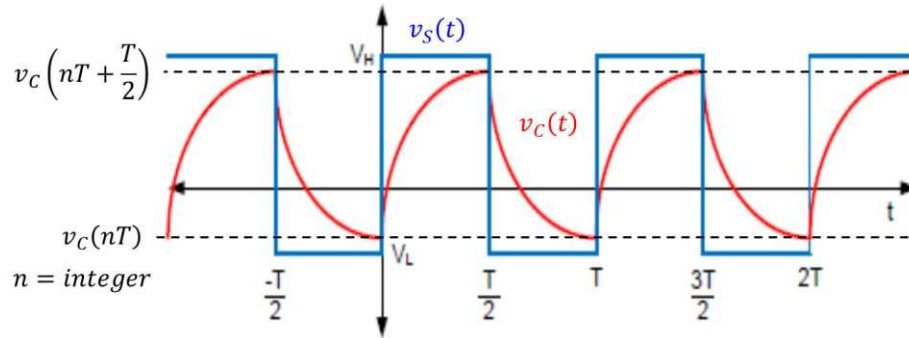

Figure 2 - RC circuit response to a square wave.
The RC circuit responds to the applied square wave voltage by charging and discharging the capacitor. This is shown in Fig. 2 with the source voltage  $v_s(t)$  shown in blue and the corresponding steady-state capacitor voltage  $v_C(t)$  shown in red. "Steady-state" is defined as the conditions reached after the natural response of the circuit has died out such that the response of the circuit to the square wave is a sustained oscillation.
Note that in Fig. 2 the capacitor is never able to either fully charge or discharge. This drawing is based on the assumption that  $T_c > T$  (the time constant of the RC circuit is greater than the period of the square waveform). If  $T_c \ll T$ , the capacitor would fully charge and discharge during each period of the waveform. Conversely, if  $T_c \gg T$ , the capacitor voltage would remain nearly constant.
The equations describing  $V_C(nT + \frac{T}{2})$  and  $V_C(nT)$  from Fig. 2, in terms of  $V_L$ ,  $V_H$ ,  $T$ ,  $R$ , and  $C$  are
3. Connect the waveform generator and the circuit to the oscilloscope. Simultaneously display 4 periods of the input square wave  $v_S(t)$  and the output voltage across the capacitor  $v_C(t)$  similar to the graph of Fig. 2.